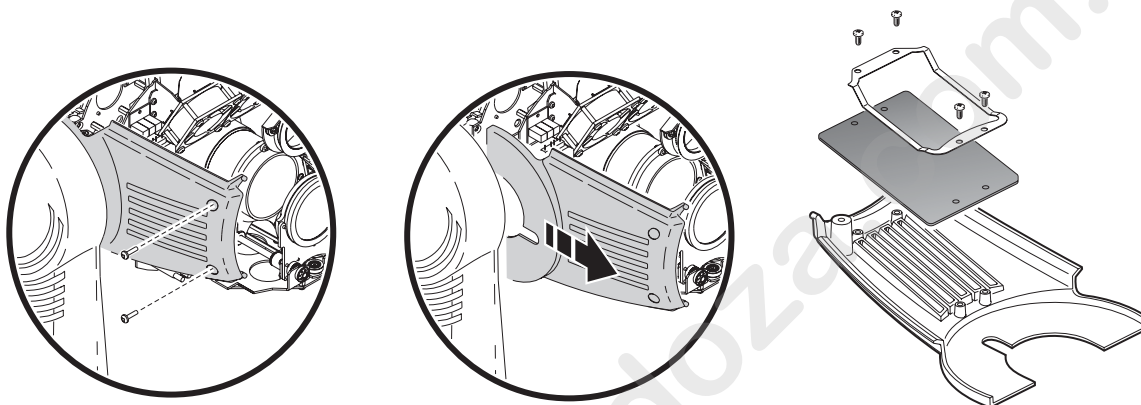

Figure 21: Air filter replacement
6. See Figure 21. On each side of the head, remove the 2 screws that hold the side covers and slide the covers forward to remove. Unscrew the air filter clips and inspect the filter elements. If they are dirty, soak them in warm soapy water and blot dry. If the filters are not in perfect condition, replace them. Reinstall the filters and side covers.